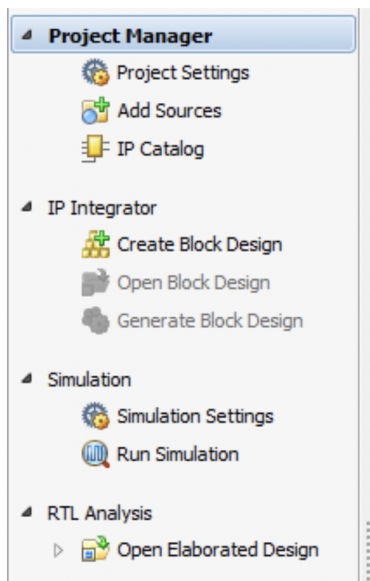

Figure 3: Project Manager
- In Vivado, go to the Project Manager window on the left side of the screen as shown in Fig. 3.